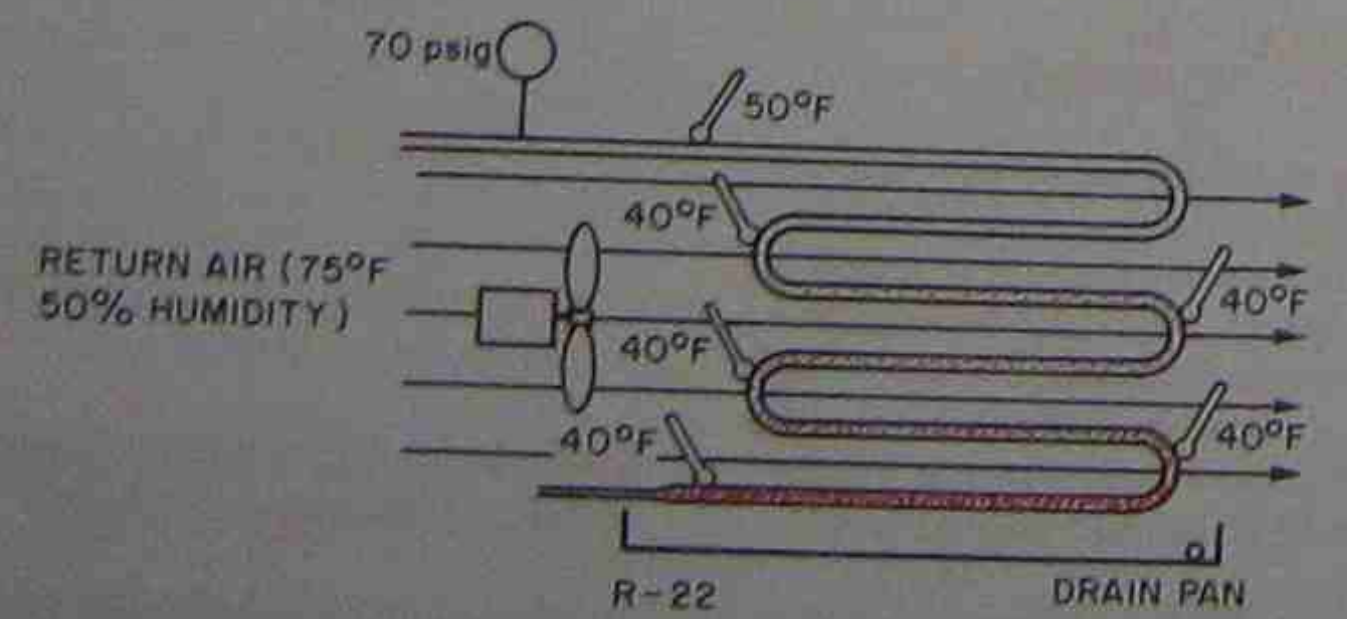

Figure 42-13. Evaporator operating at close to design conditions.
1. The suction temperature is 40°F (70 psig for R-22 and 37 psig for R-12), Figure 42-13.